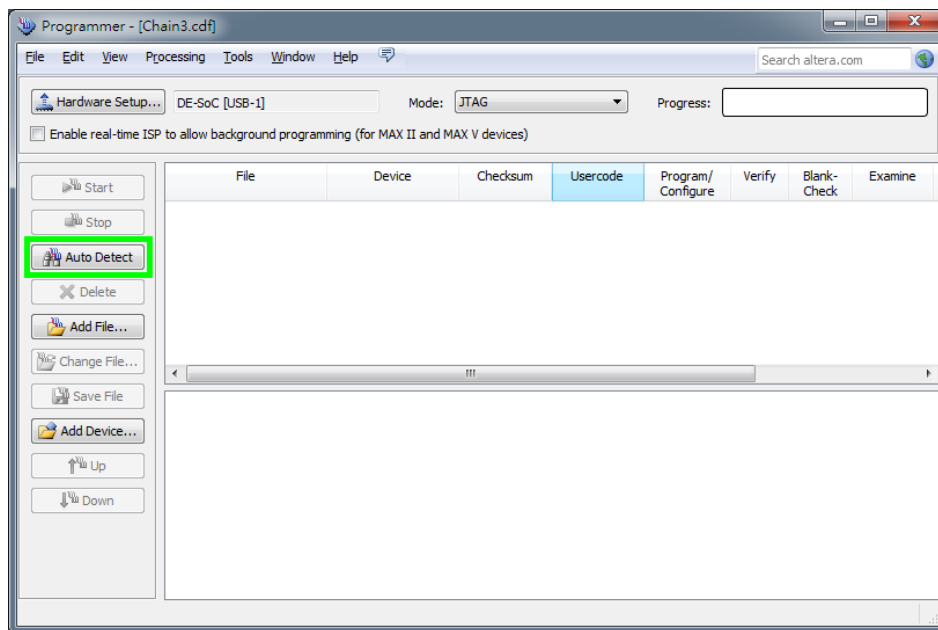

Figure 3-2 FPGA JTAG Programming Steps 1
- Open Programmer and click “Auto Detect “ as **Figure 3-2**